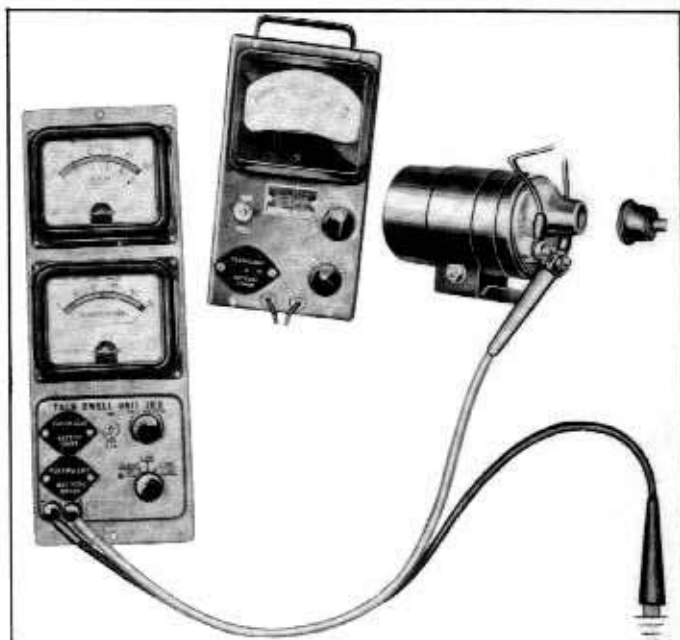

Fig. 9-45—Distributor Resistance Test—(60C-7704)
- Connect test leads as shown in figure 9-45, black lead to a good engine ground and red lead to DIST. terminal of coil.
- With the test leads connected as shown in figure 9-45, black lead to a good engine ground and red lead to DIST. terminal of coil, turn selector switch to the 6 LOBE position.